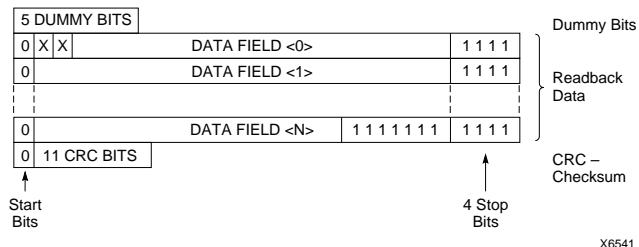

Figure 7-9 XC4000 Readback Bitstream
The readback bitstream starts with five dummy bits. The readback data frame has the same format as the configuration data frame, which facilitates a bit-by-bit comparison between readback and configuration data. Each data frame consists of a start bit (0), the data field, and four stop bits (1111). The bitstream ends with 11 CRC bits, as illustrated by Figure 7-9.
During a readback, 11 bits of the 16-bit checksum are appended to the end of the readback data stream, as illustrated in Figure 7-9.